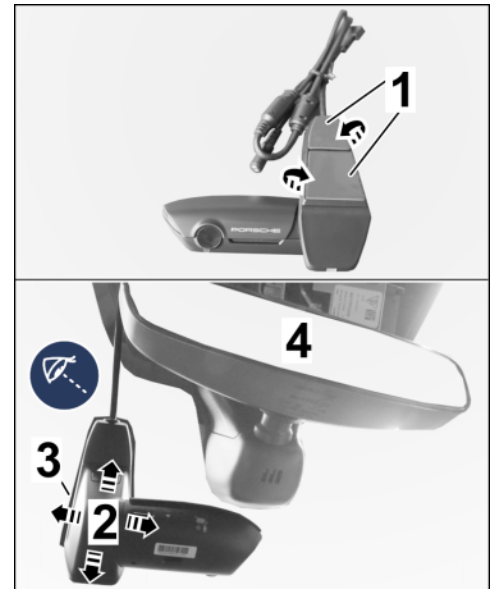

Figure 10
2.2.4 Pull protective film off the front camera retainer plate (⇒ *Figure 10-top*-).
Align front camera with retainer plate symmetrically with respect to the 3M privacy film (⇒ *Figure 10-bottom*-).